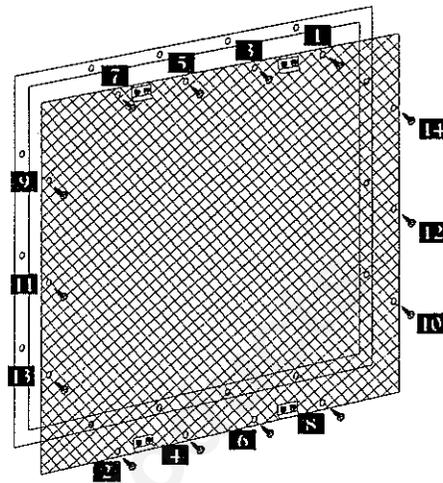

FIGURE 22. Frame tightening sequence
4. Use 14 screws from the parts bag to replace the glass panel/frame assembly. Lift the assembly into position on the front of the firebox. Insert all screws and turn them to finger tightness only. Shift the glass to ensure that it is all the way into the gasket recess. Tighten the screws, one turn at a time, following the alternating pattern designated in Fig. 22.